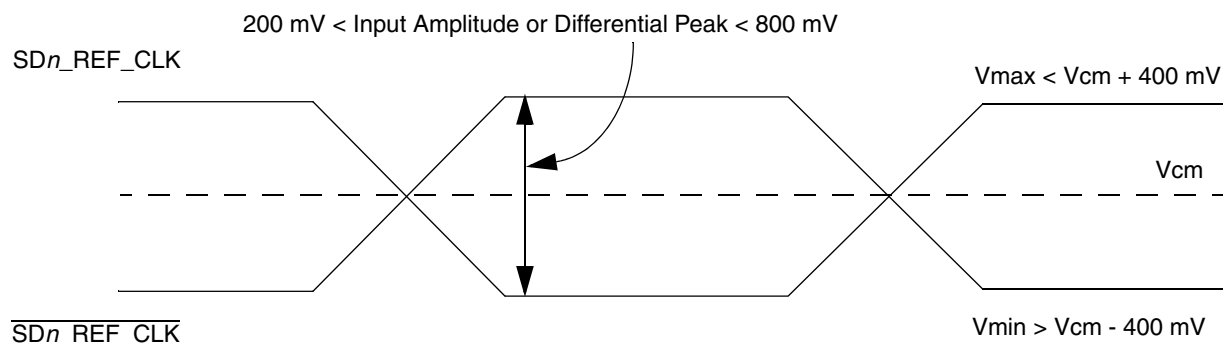

Figure 43. Differential Reference Clock Input DC Requirements (External AC-Coupled)
- For **external AC-coupled** connection, there is no common mode voltage requirement for the clock driver. Since the external AC-coupling capacitor blocks the DC level, the clock driver and the SerDes reference clock receiver operate in different command mode voltages. The SerDes reference clock receiver in this connection scheme has its common mode voltage set to SGND_SRDS_n. Each signal wire of the differential inputs is allowed to swing below and above the command mode voltage (SGND_SRDS_n). Figure 43 shows the SerDes reference clock input requirement for AC-coupled connection scheme.